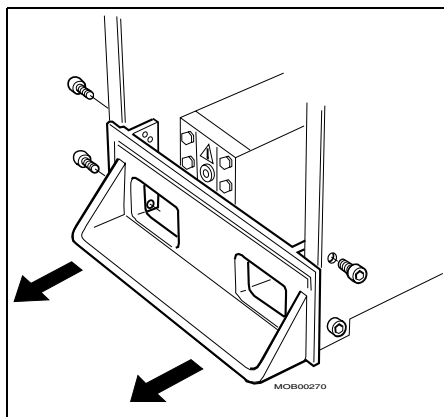

Fig. 18 Tilt bar
25. For MOBILETT:s with a tilt bar, remove the tilt bar (Fig. 18).